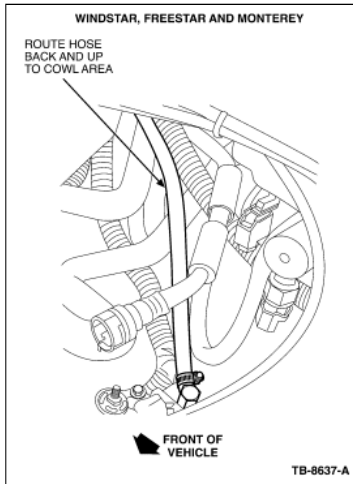

Figure 3 - Article 06-18-13
- Windstar, Freestar, and Monterey (Figure 3, 4, and 5)